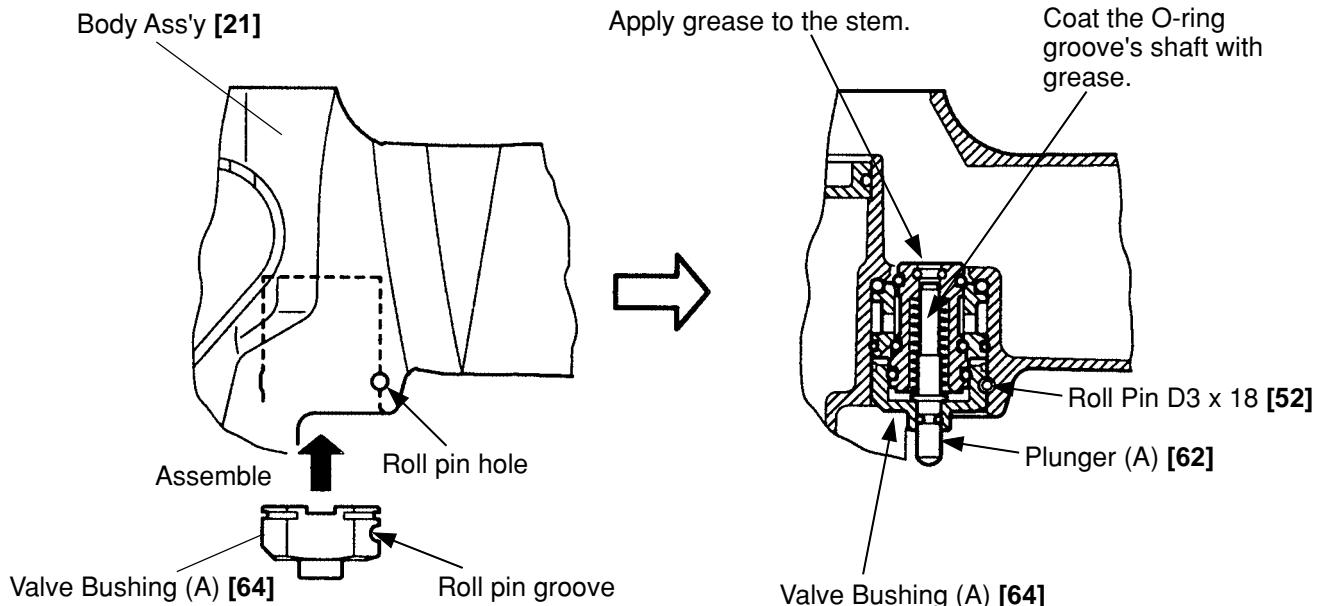

Fig. 16
- Thoroughly apply grease to the O-Ring (I.D 1.8) [63] on Plunger (A) [62], O-Rings (S-4) [58], (I.D 8.8) [57] and (I.D 11) [60] on Valve Piston (B) [59], and the shaft of Plunger (A) [62] as shown in Fig. 16.
- As shown in Fig. 16, install Valve Bushing (A) [64] so that the roll pin groove in Valve Bushing (A) [64] will be aligned with the roll pin hole in the Body Ass'y [21]. First, insert a roll pin puller (3 mm (0.118") dia.) into the roll pin hole. Then, upon confirming that the puller passes through the hole, drive in the Roll Pin D3 x 18 [52].